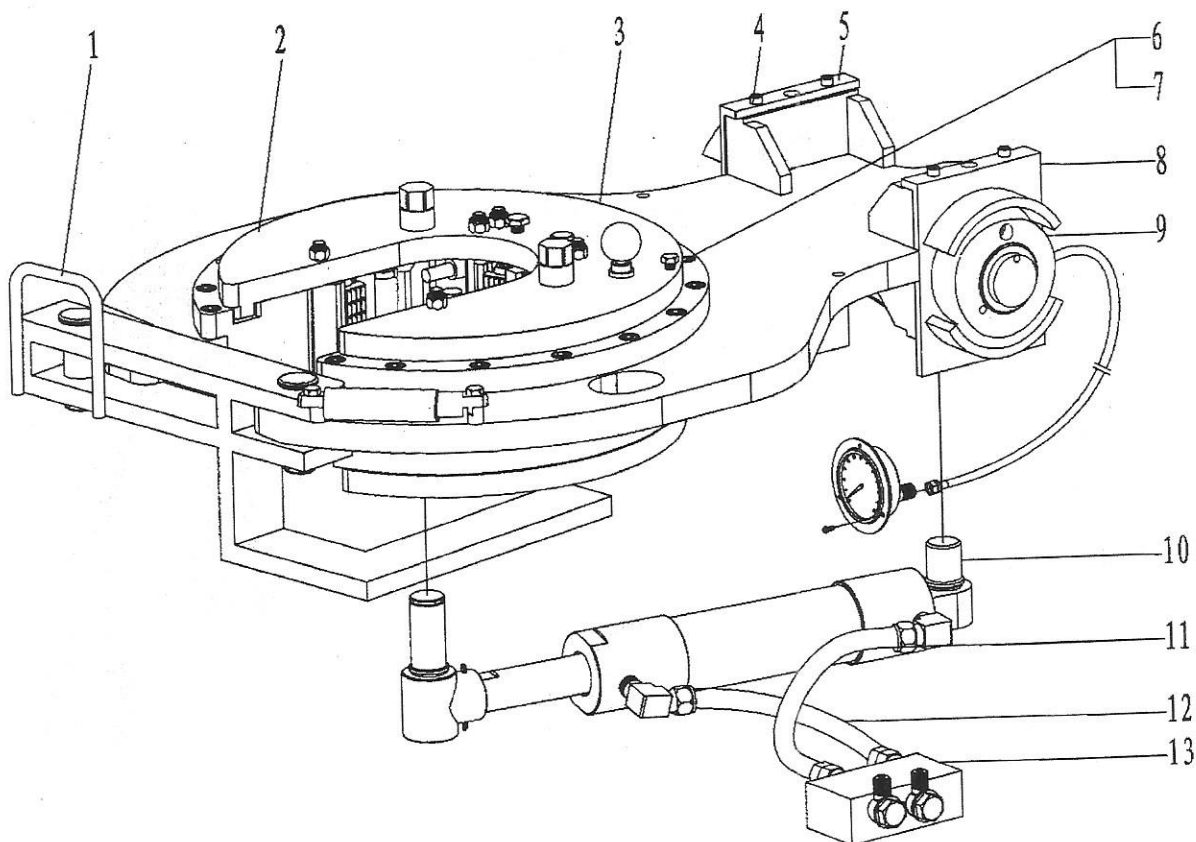

Fig. 21
18. Assembly of back tong (Fig 21, Table 18)